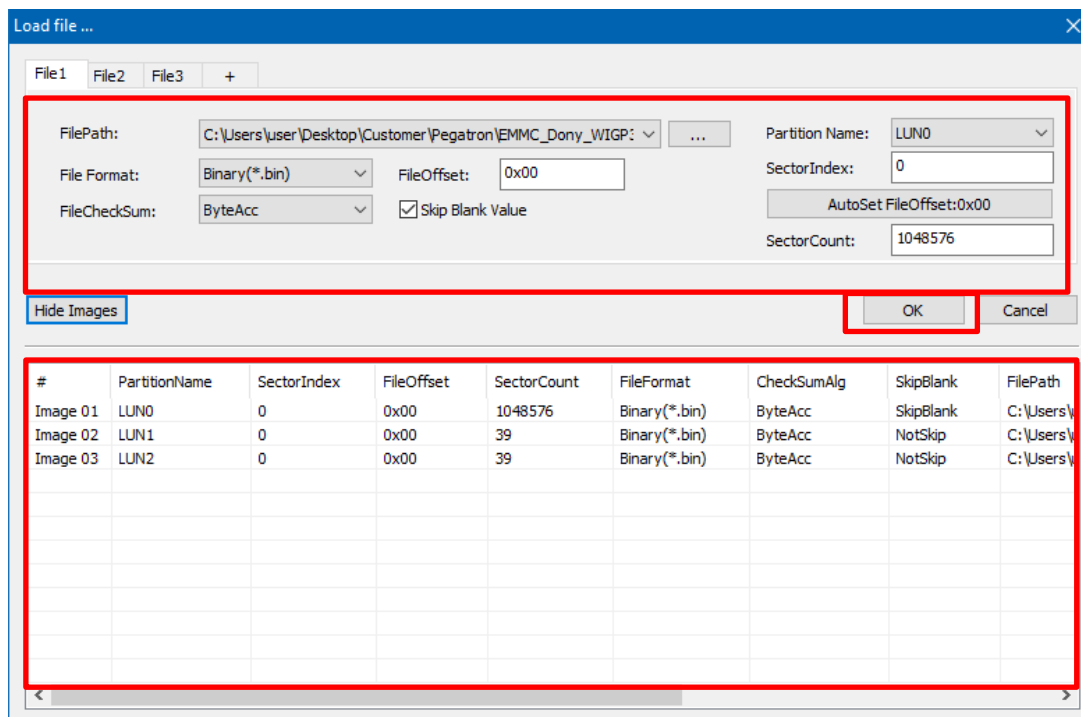

Fig. 5-35
**Step 2.** Load a programming file: load a programming file to each LUN partition separately (Fig. 5-35). Since LUN0 file is bigger and more dispersed, please select the **Skip Blank Value** to reduce the programming time.